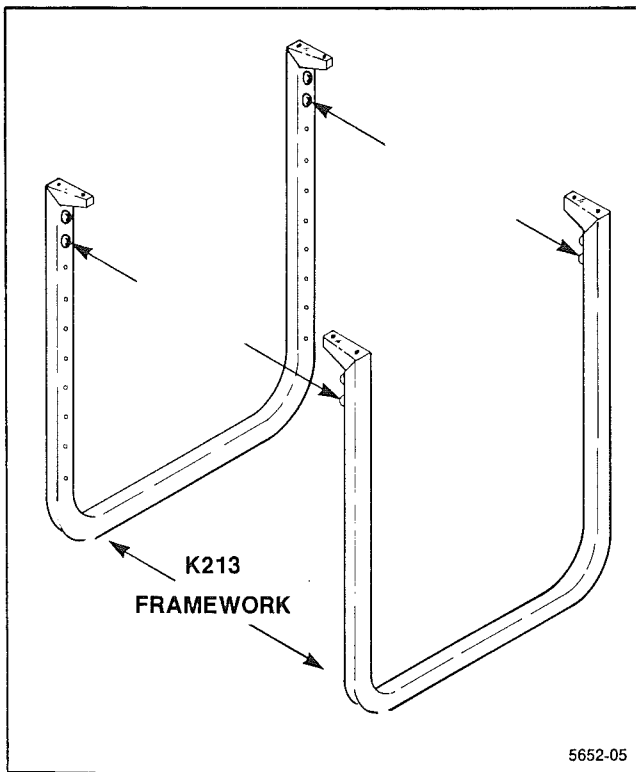

Figure 5. Keyboard drawer mounting positions.
1. Remove the four lower screws from the upper portion of the framework below the top tray (refer to Figure 5).